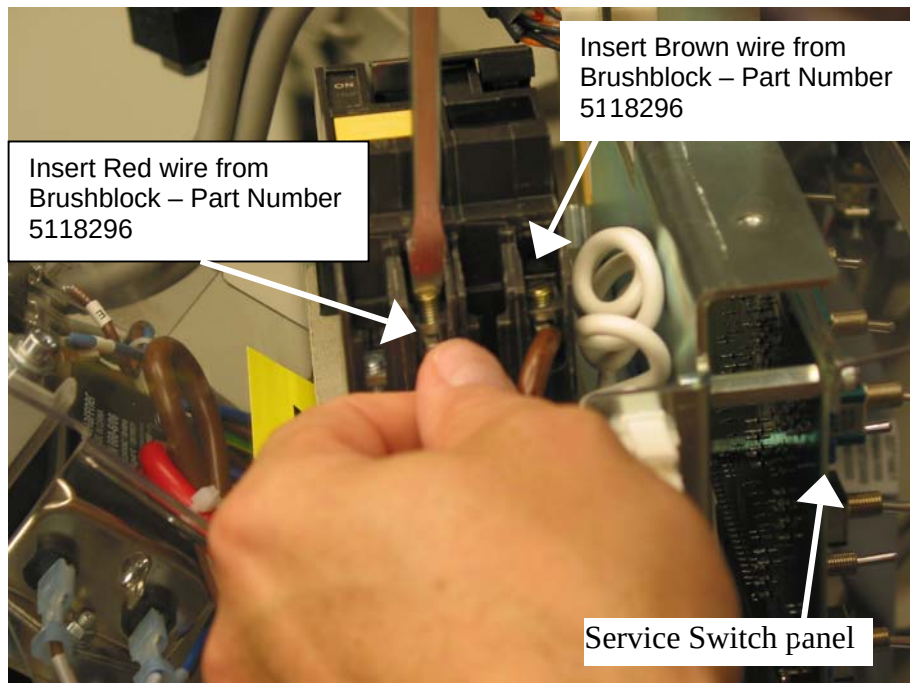

Figure 3 Wires from brushblock
- f) Insert wires from Sliping Brushblock to the GFI breaker on the gantry front side (see Figure 3) and tighten screws. Wires are labeled as 5118296.